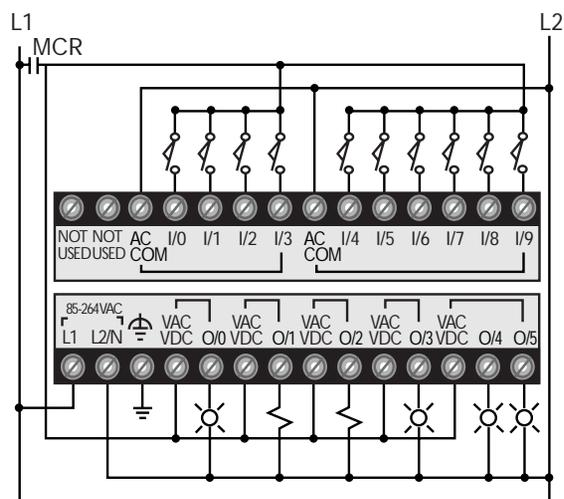

Figure 2-31. AC I/O power distribution wiring.
**AC I/O Power Distribution.** If a MicroLogix uses AC inputs and outputs, then the same 120 VAC line that powers the PLC can also power the I/O devices. Figure 2-31 shows an example of AC I/O power wiring. In this situation, the L1 line going to the PLC provides power to the inputs. The inputs' common lines connect to the L2 line to complete the circuit. The L1 and L2 lines provide power and return to the output devices as well.